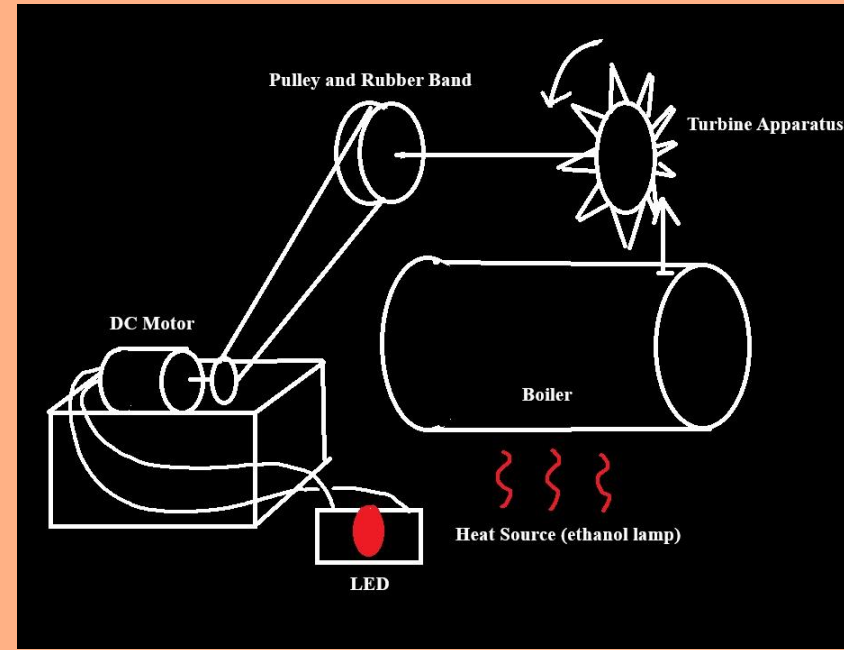

Figure 1.1 - Ideal self supported experimental setup
- 1) Power an LED using the rotation of the fan blades. (see Figure 1.1)
- 3) If we go with (2) our calculations may be much easier to compute.